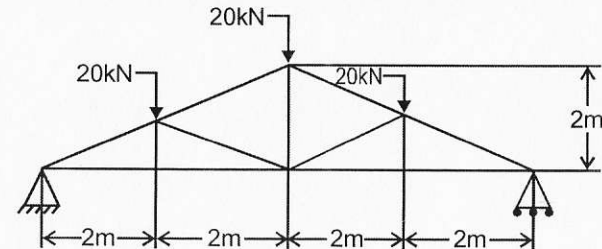

Figure 7
6. Find out the member forces in the truss as shown in Fig.7. Use method of section or method of joints.